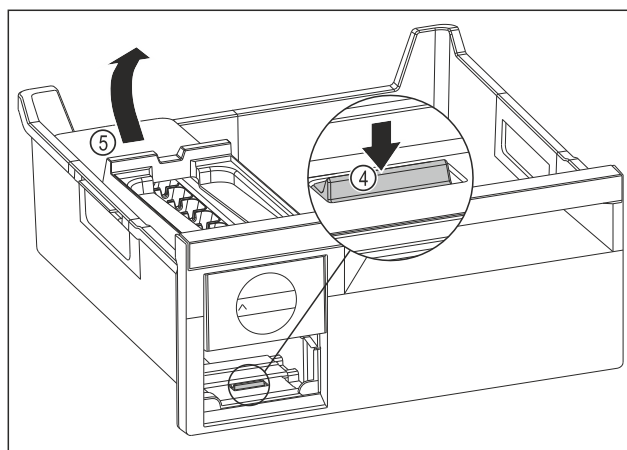

Fig. 105
- Removing the EasyTwist-Ice body: Use your finger to push the tab Fig. 105 (4) down and use your other hand to lift the EasyTwist-Ice body Fig. 105 (5) from behind at the same time.